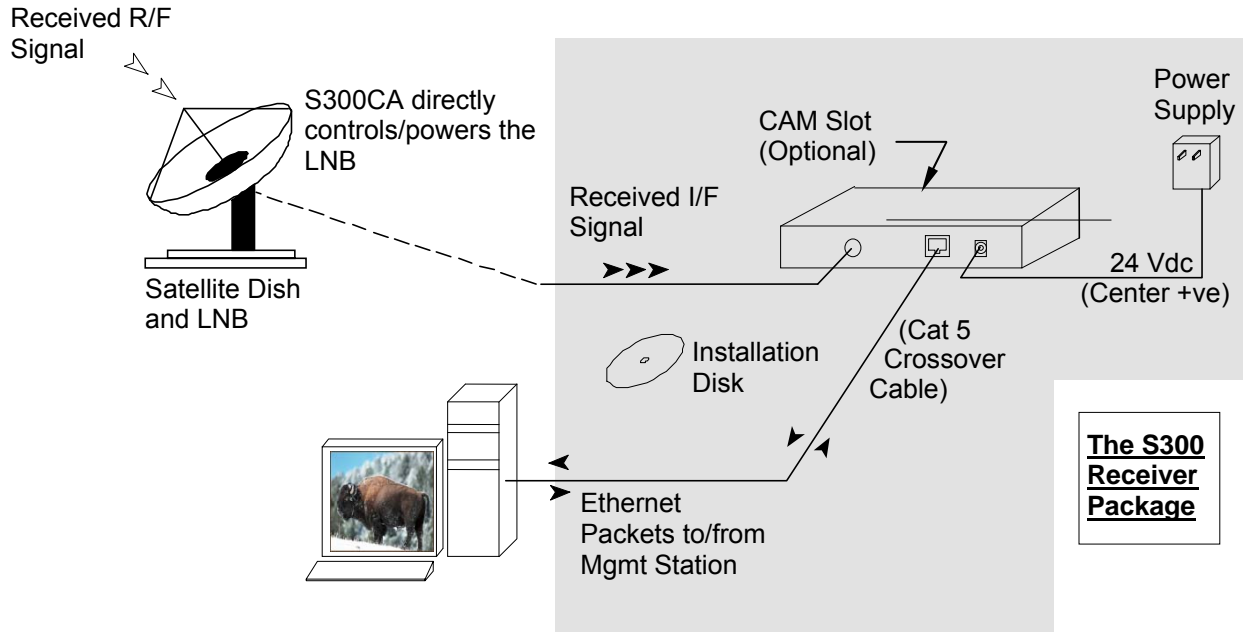

Figure 1: Typical Configuration
Please refer to Figure 1 below for a better understanding of the S300 operation. The desired DVB-S2 satellite signal is received using an appropriately sized satellite dish (not covered in this manual). A Low Noise Block (LNB) downconverter (not covered in this manual) is used to translate the incoming Radio Frequency (RF) signal to an Intermediate Frequency (IF) signal. The S300 receives this I/F signal and extracts the IP content, which is then passed onto the S300 LAN for distribution or viewing via computers connected to the LAN. The received data type may be IP data or may be MPEG video data, depending on the S200 model being employed.